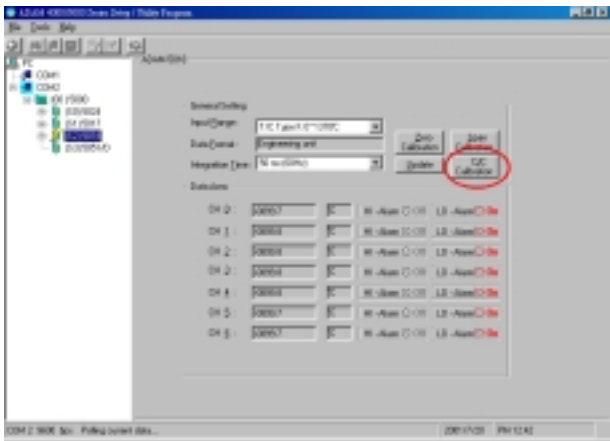

Figure 5-11: CJC Calibration
- (1). Prepare a voltage source which is accurate to the mV level.
- (2). Run the zero calibration and span calibration function.
- (3). Use a temperature emulation device (such as Micro-10) to send a temperature signal to the ADAM module and then compare this signal with the reading from the ADAM module. If the reading value is different from the signal, adjust the CJC value to improve it.
- (4). Click the “CJC Calibration” button. See Figure 5-11.